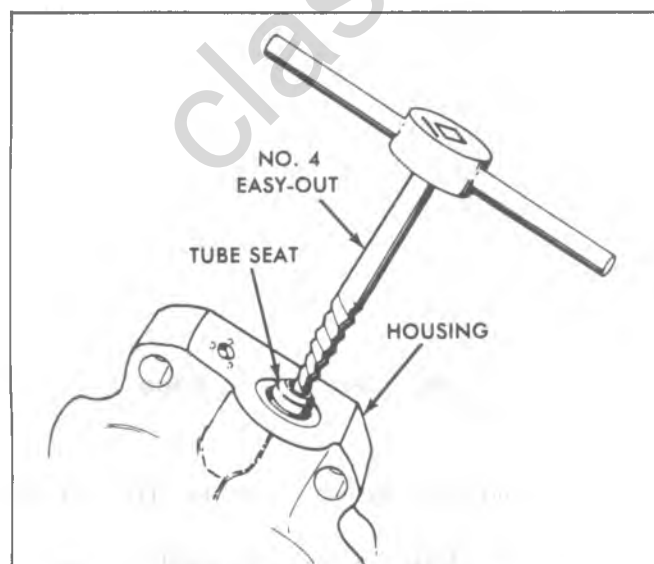

Fig. 5-54—Removing Tube Seat
4. Remove tube seat using No. 4 easy-out as shown in Figure 5-54.